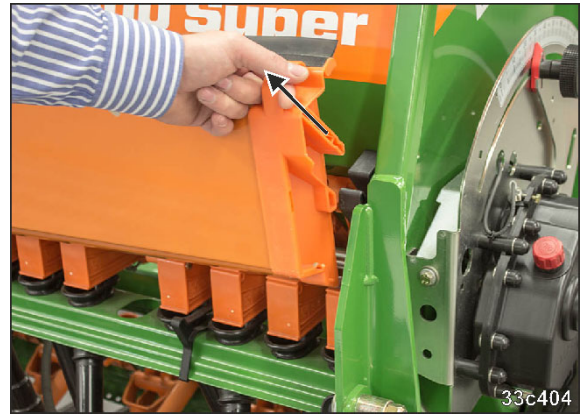

Fig. 165
1. Pull the calibration trays (Fig. 165) out of the brackets.